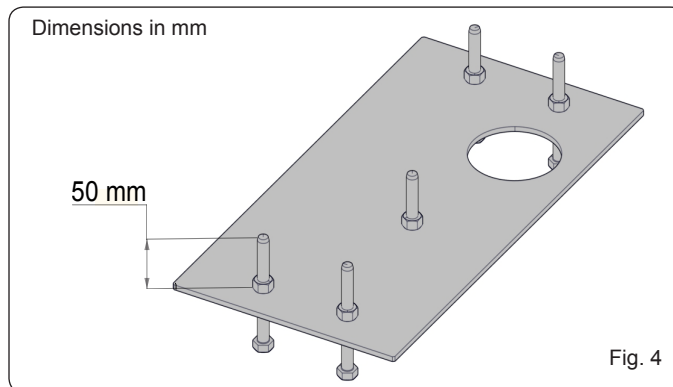

Fig. 4
1. Assemble the foundation plate as shown in Fig. 4;